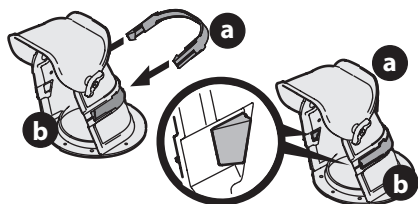

Figure 9
1. If not already done, install the chute plug (a) onto the chute (b) (Figure 9). Be certain that the plug is aligned in the channel on the chute and that the tabs snap into place.